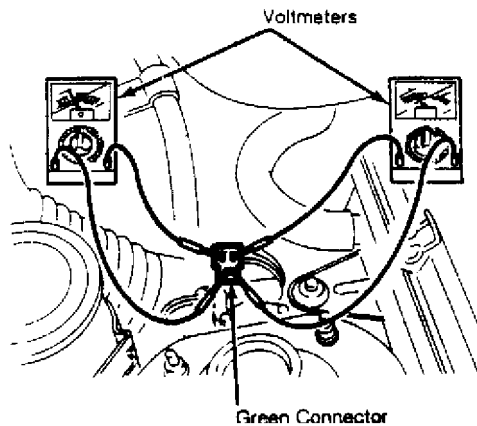

Fig. 2: Voltmeters Connected to Adjust Throttle Sensor
1) To check and adjust throttle sensor, proceed as follows. Warm up engine then turn it off. Connect voltmeters to checking connector (Green) as shown in Fig. 2.